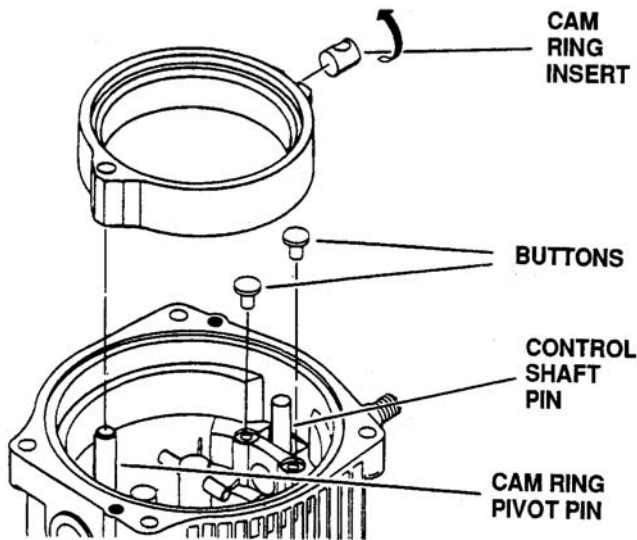

Figure 6-132. Cam Ring Installation
- Install two buttons in cover. See Figure 6-132.